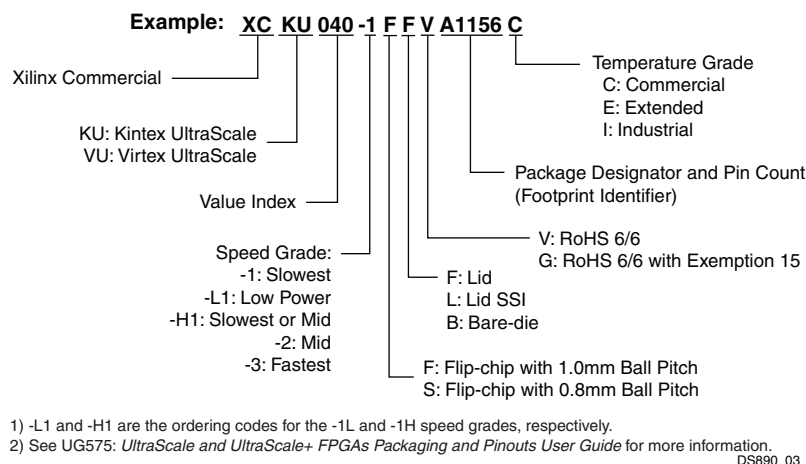
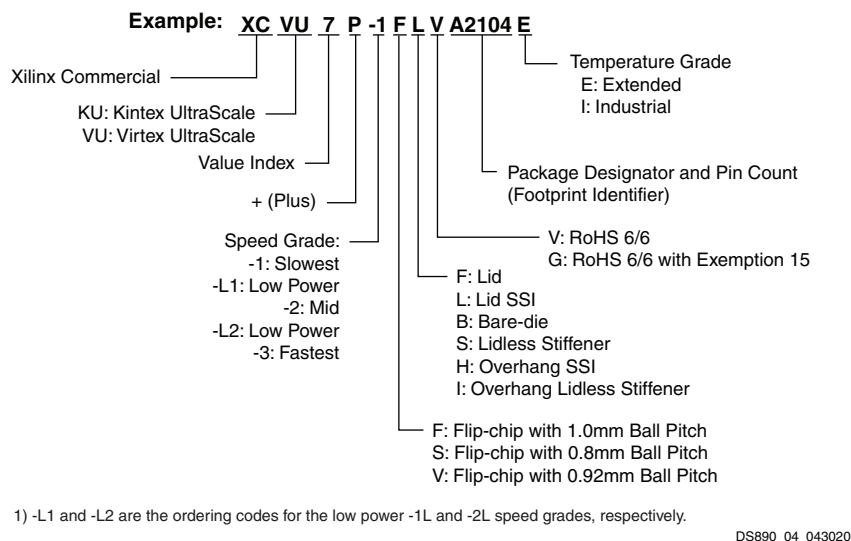
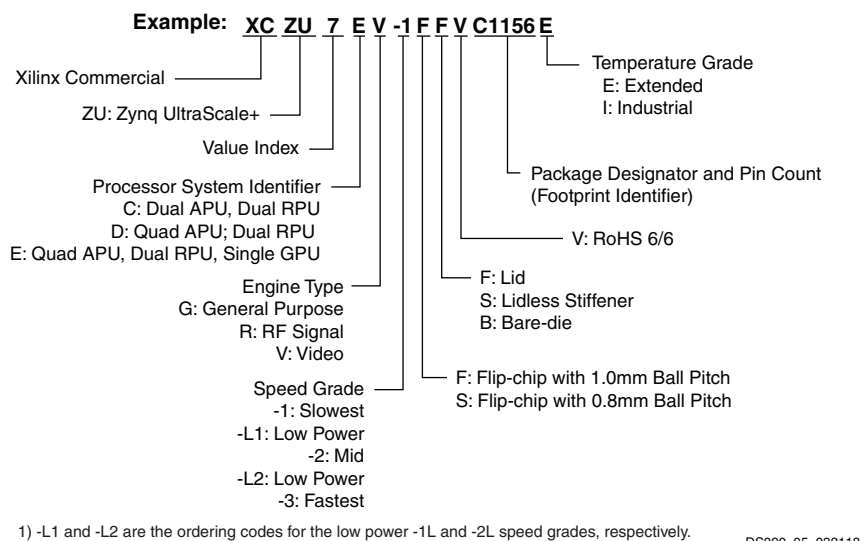

**Figure 3: Kintex UltraScale and Virtex UltraScale FPGA Ordering Information**
**Figure 4: UltraScale+ FPGA Ordering Information**
**Figure 5: Zynq UltraScale+ MPSoC and RFSoc Ordering Information**
The ordering information shown in Figure 3 applies to all packages in the Kintex UltraScale and Virtex UltraScale FPGAs. Refer to the Package Marking section of UG575, UltraScale and UltraScale+ FPGAs Packaging and Pinouts User Guide for a more detailed explanation of the device markings.
The ordering information shown in Figure 4 applies to all packages in the Kintex UltraScale+ and Virtex UltraScale+ FPGAs, and Figure 5 applies to Zynq UltraScale+ MPSoCs and RFSocCs.
| 11/15/2017 | 3.1     | Updated <a href="#">Table 20</a> with FSVE1156, FSVG1517, and FSVF1760 packages. Updated <a href="#">Figure 5</a> .                                                                                                                                                                                                                                                                                                                                                                                                                                                                                                                                                                                                                                                                                                                                                                                                                                                             |
| 10/03/2017 | 3.0     | Added Zynq UltraScale+ RFSoc information throughout document. Updated <a href="#">General Description</a> , <a href="#">Table 1</a> , <a href="#">RF Data Converter Subsystem Overview</a> , <a href="#">Soft Decision Forward Error Correction (SD-FEC) Overview</a> , <a href="#">Processing System Overview</a> (including <a href="#">Table 2</a> ), <a href="#">Configuration</a> , <a href="#">Encryption</a> , and <a href="#">System Monitoring</a> , <a href="#">Table 23</a> , <a href="#">Table 25</a> , and <a href="#">Figure 5</a> . Updated UltraRAM ZU4CG/ZU4EG/ZU4EV values in <a href="#">Table 13</a> , <a href="#">Table 15</a> , <a href="#">Table 17</a> . Added <a href="#">Table 19</a> , <a href="#">Table 20</a> , <a href="#">RF Data Converter Subsystem Overview</a> , and <a href="#">Soft Decision Forward Error Correction (SD-FEC) Overview</a> . Updated <a href="#">Figure 3</a> , <a href="#">Figure 4</a> , and <a href="#">Figure 5</a> . |
| 06/03/2016 | 2.8     | Added Zynq UltraScale+ MPSoC CG devices: Added <a href="#">Table 2</a> . Updated <a href="#">Table 13</a> , <a href="#">Table 14</a> , <a href="#">Table 25</a> , and <a href="#">Figure 5</a> . Created separate tables for EG and EV devices: <a href="#">Table 15</a> , <a href="#">Table 16</a> , <a href="#">Table 17</a> , and <a href="#">Table 18</a> .Updated <a href="#">Table 1</a> , <a href="#">Table 3</a> , <a href="#">Table 5</a> and notes, <a href="#">Table 6</a> and notes, <a href="#">Table 7</a> , <a href="#">Table 9</a> , <a href="#">Table 12</a> , <a href="#">Processing System Overview</a> , and <a href="#">Processing System (PS)</a> details. |
| 02/17/2016 | 2.7     | Added <a href="#">Migrating Devices</a> . Updated <a href="#">Table 4</a> , <a href="#">Table 5</a> , <a href="#">Table 6</a> , <a href="#">Table 12</a> , <a href="#">Table 13</a> , <a href="#">Table 14</a> , and <a href="#">Figure 4</a> .                                                                                                                                                                                                                                                                                                                                                                                                                                      |
| 10/15/2015 | 2.4     | Updated <a href="#">Table 1</a> , <a href="#">Table 3</a> , <a href="#">Table 5</a> , <a href="#">Table 7</a> , <a href="#">Table 9</a> , and <a href="#">Table 13</a> with System Logic Cells. Updated <a href="#">Figure 3</a> . Updated <a href="#">Table 23</a> .                                                                                                                                                                                                                                                                                                                                                                                                                |
| 09/29/2015 | 2.3     | Added A1156 to KU095 in <a href="#">Table 4</a> . Updated <a href="#">Table 5</a> . Updated Max. Distributed RAM in <a href="#">Table 9</a> . Updated Distributed RAM in <a href="#">Table 13</a> . Added <a href="#">Table 23</a> . Updated <a href="#">Table 25</a> . Updated <a href="#">Figure 3</a> .                                                                                                                                                                                                                                                                                                                                                                           |
| 04/27/2015 | 2.1     | Updated <a href="#">Table 1</a> , <a href="#">Table 3</a> , <a href="#">Table 4</a> , <a href="#">Table 5</a> , <a href="#">Table 6</a> , <a href="#">Table 7</a> , <a href="#">Table 12</a> , <a href="#">Table 13</a> , <a href="#">Table 14</a> , <a href="#">Table 21</a> , <a href="#">I/O</a> , <a href="#">Transceiver</a> , <a href="#">PCIe</a> , <a href="#">100G Ethernet</a> , and <a href="#">150G Interlaken</a> , <a href="#">Integrated Interface Blocks for PCI Express Designs</a> , <a href="#">USB 3.0/2.0</a> , <a href="#">Clock Management</a> , <a href="#">System Monitor</a> , and <a href="#">Figure 3</a> .                                              |
| 11/17/2014 | 1.5     | Updated <a href="#">I/O</a> , <a href="#">Transceiver</a> , <a href="#">PCIe</a> , <a href="#">100G Ethernet</a> , and <a href="#">150G Interlaken</a> ; <a href="#">Table 1</a> ; <a href="#">Table 4</a> ; <a href="#">Table 7</a> ; <a href="#">Table 8</a> ; <a href="#">Table 21</a> ; <a href="#">Input/Output</a> ; and <a href="#">Figure 3</a> .                                                                                                                                                                                                                                                                                                                            |
| 09/16/2014 | 1.4     | Updated Logic Cell information in <a href="#">Table 1</a> . Updated <a href="#">Table 3</a> ; <a href="#">I/O</a> , <a href="#">Transceiver</a> , <a href="#">PCIe</a> , <a href="#">100G Ethernet</a> , and <a href="#">150G Interlaken</a> ; <a href="#">Table 7</a> ; <a href="#">Table 8</a> ; <a href="#">Integrated Block for 100G Ethernet</a> ; and <a href="#">Figure 3</a> .                                                                                                                                                                                                                                                                                               |